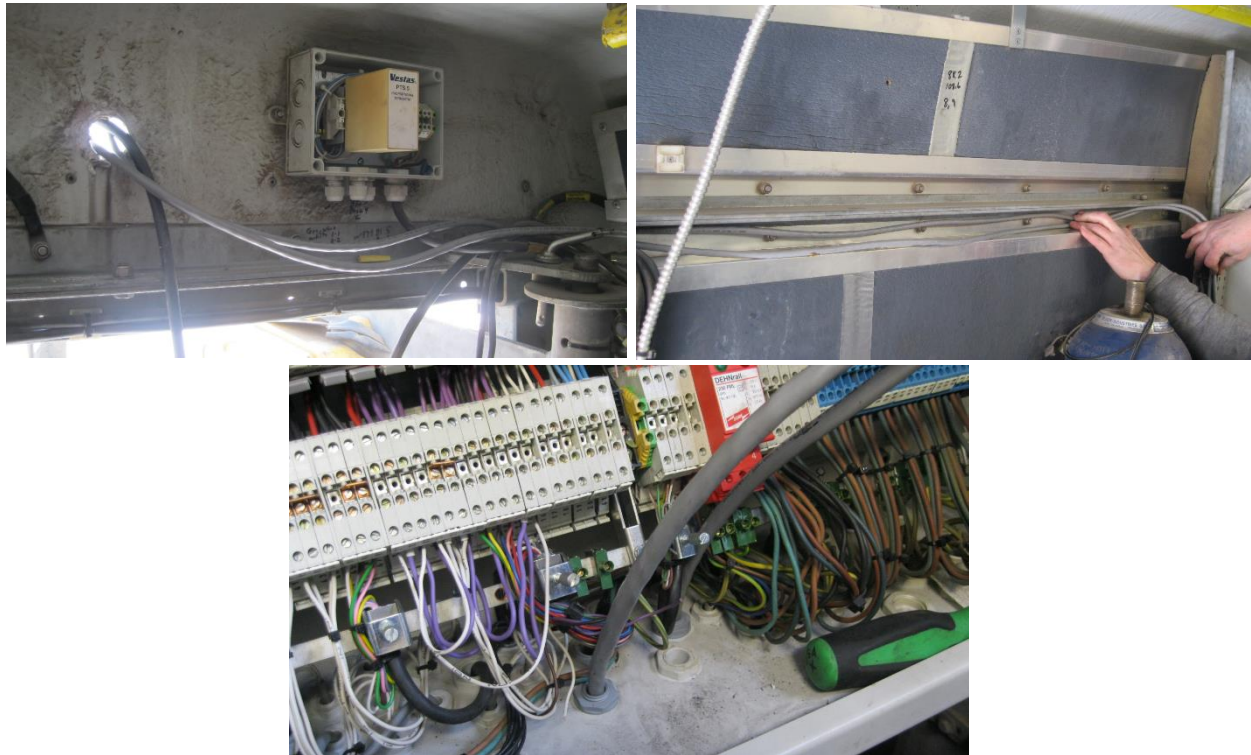

Figure 4 | Routing cables inside the nacelle
7. Back inside the nacelle, route the cables along the nacelle wall to the sensor connection terminals inside the electrical cabinet (Figure 4).